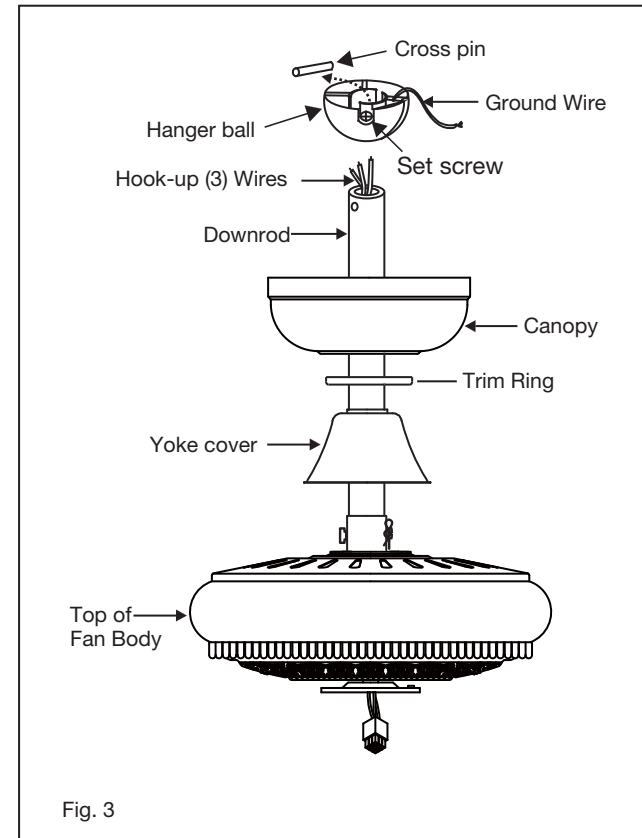

Fig. 3
- 1 Slip the yoke cover, trim ring and canopy onto the downrod. (Fig. 3)